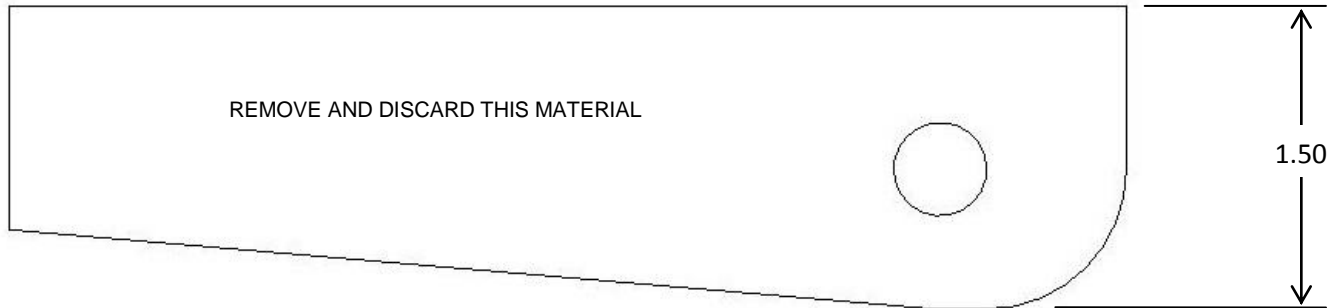

Figure 17
- Front driver side UCA mount; 6 cylinder models remove entire bracket, 4 cylinder models remove lower portion of bracket using attached template (figure 17).